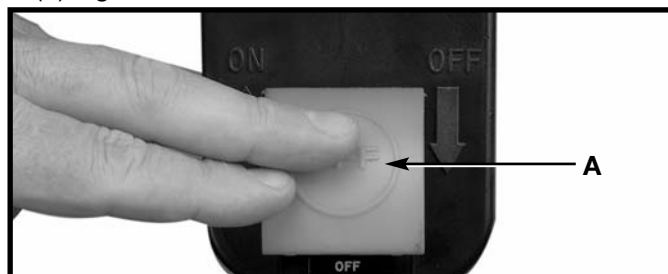

Fig. 43
2. To turn the saw "OFF", push down on switch shield (A) Fig. 43.